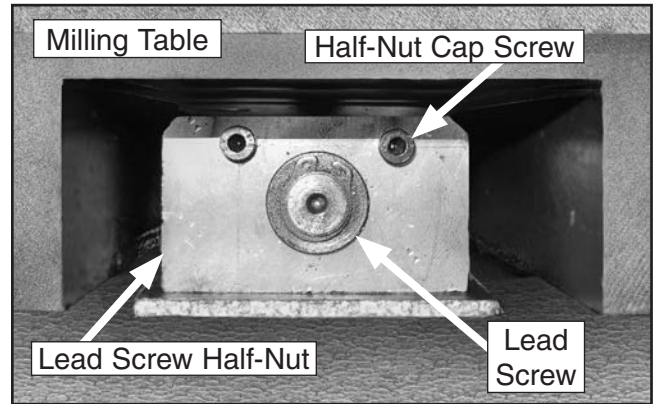

Figure 36. Handwheel backlash adjustment.
5. Locate the X-axis lead screw half-nut (see **Figure 36**), and adjust both cap screws until the handwheel has approximately 0.003" backlash as shown by the dial.